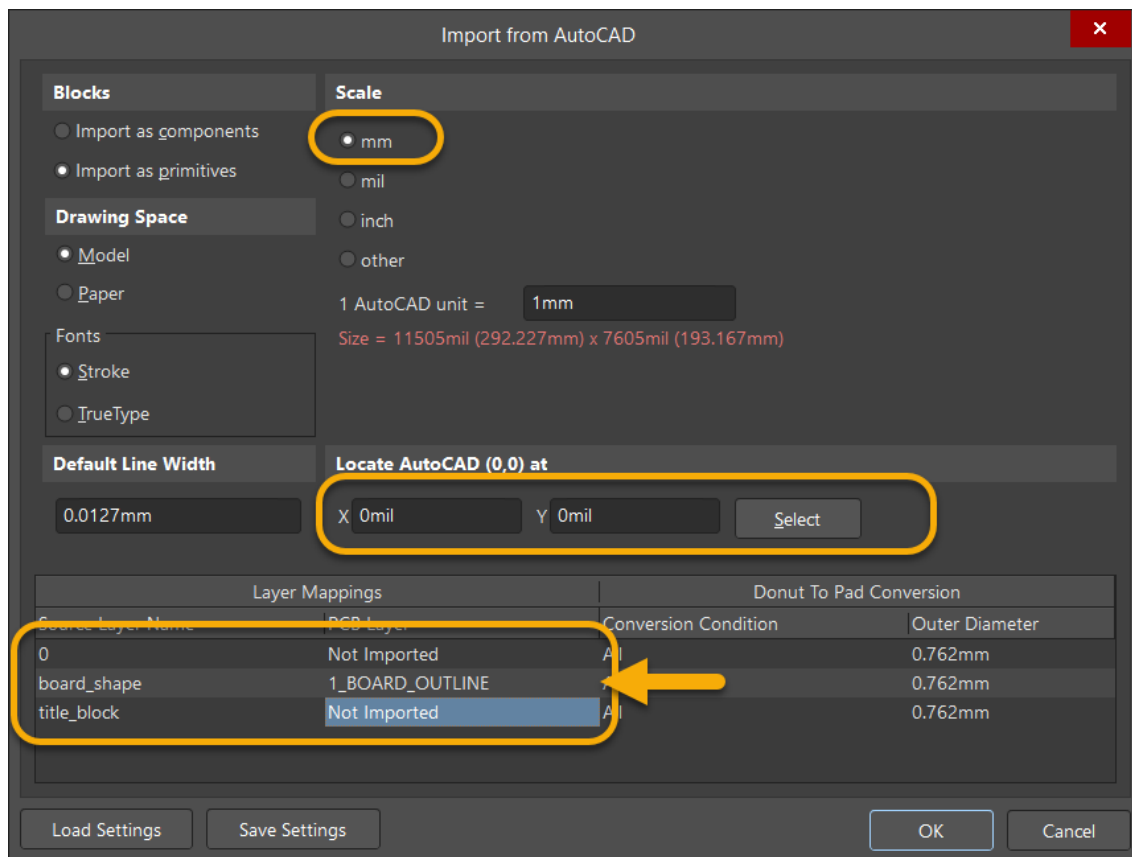

Figure 12. Import DXF dialog
42. The *Import from AutoCAD* dialog box will open. Change the settings as shown in Figure 12.